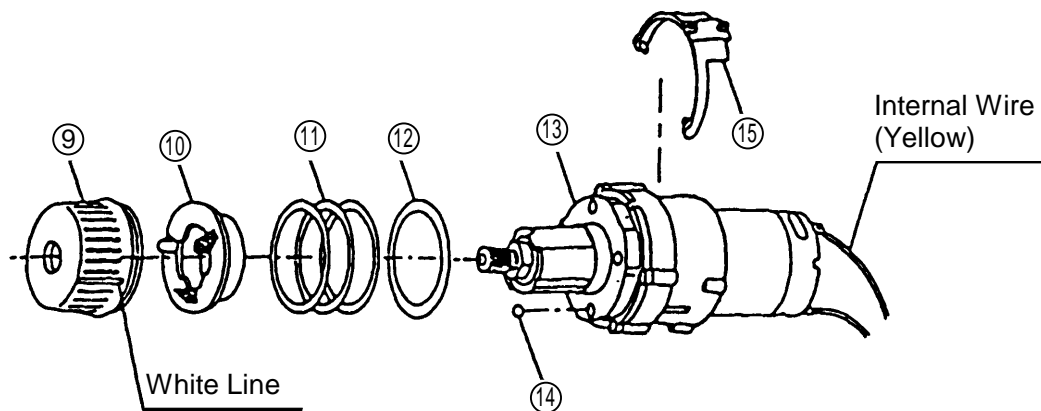

Fig. 4
(3) Reassembly of the Clutch Section:
Assemble the Cap ⑨ and Shift Arm ⑮ onto the Spindle Gear Set ⑬. (See Fig. 4)
(b) When assembling the Cap ⑨ onto the components assembled as described in Para. (a) above, ensure that the white line on the Cap ⑨ is properly aligned with relation to the colored lead wires soldered to the Motor ⑳. (See Fig. 4)